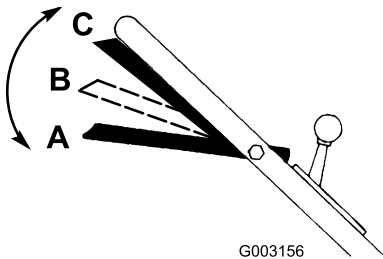

Figure 14
1. Have the control bar in the A position (Figure 14).
2. Slide the control bar to the right and raise it to the B position to engage the blade (Figure 14).
3. Squeeze the control bar against the handle to the C position to drive (Figure 14).